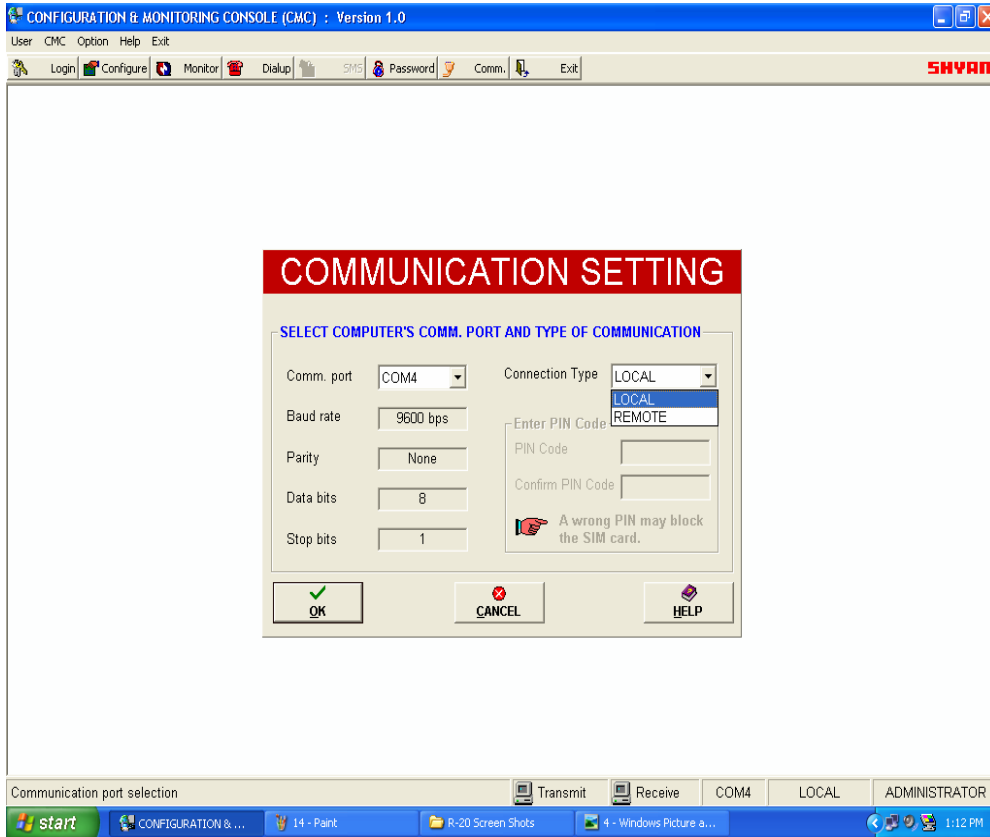

Figure 13: Communication Window
V) Communication (Refer Figure 13)